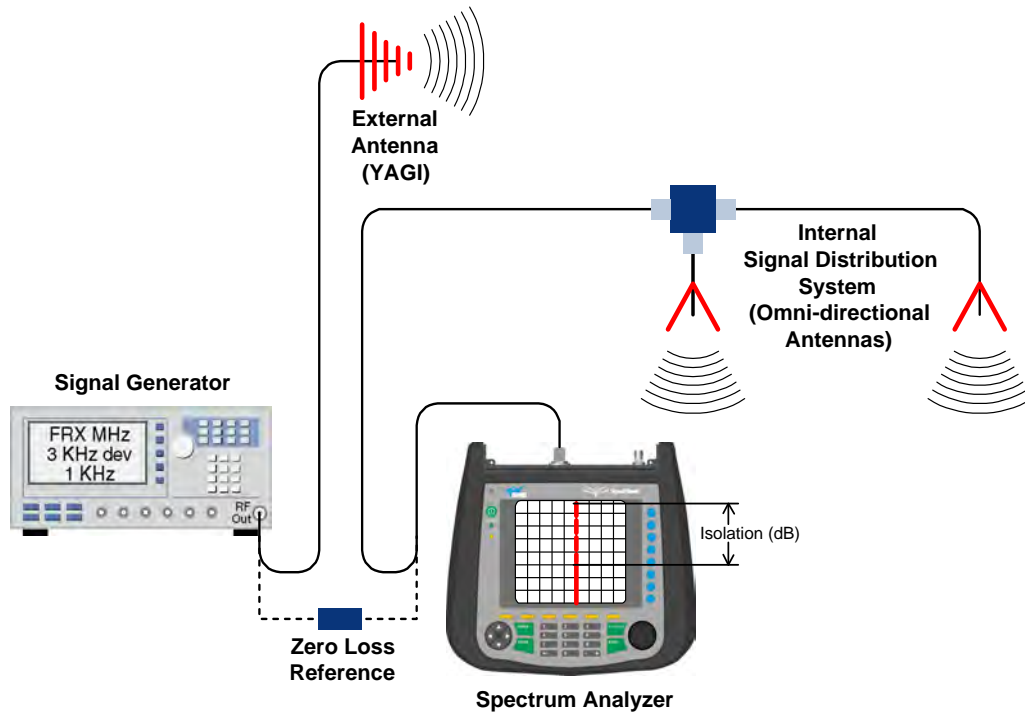

Figure 5: Typical test equipment interconnection for measuring antenna isolation.
- 3) Connect the test leads of the signal generator and the spectrum analyzer together using a female barrel connector, see **Figure 5**. Observe the signal on the analyzer and adjust the input attenuator of the spectrum analyzer for a signal level that just reaches the 0 dBm level at the top of the graticule.
- 4) Referring to figure 5, connect the generator test lead to one side of the signal distribution system (external antenna) and the spectrum analyzer lead to the other (internal distribution system) and observe the signal level. The difference between this observed level and 0 dBm is the isolation between the sections. If the signal is too weak to observe, the spectrum analyzer's bandwidth may have to be narrowed and its input attenuation reduced. Record the isolation value. **The isolation value measured should exceed the signal booster's gain figure by at least 15 dB.**